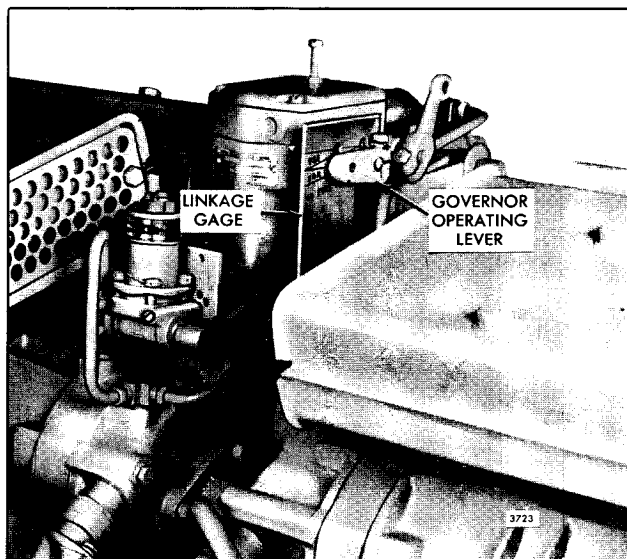

Fig. 5 - Positioning Governor Operating Lever
12. Replace the governor operating lever on the serrated shaft so that the bolt hole is lined up within the proper lines on the gage. The type of governor (SGX or PSG) will determine the proper position of the lever (Fig. 5).